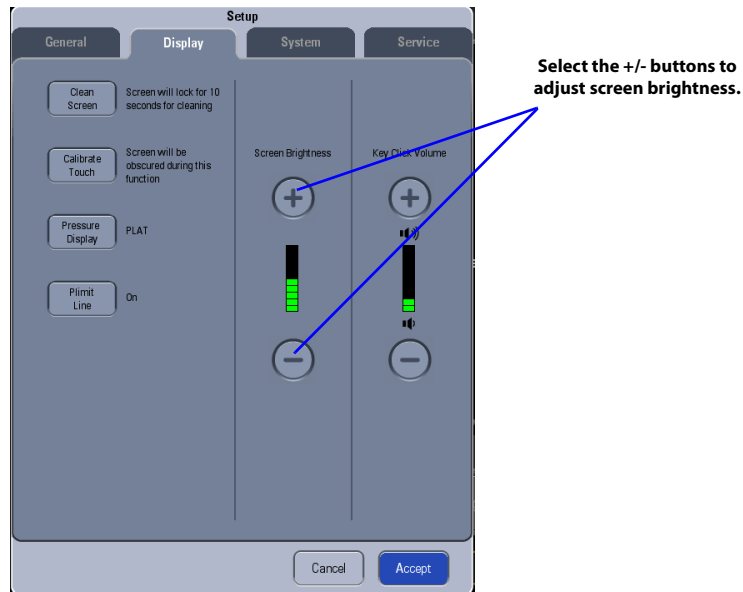

FIGURE 3-29 A5/A3 Display Tab: Screen Brightness Area
1. Select **Setup** softkey > **Display** tab (FIGURE 3-29).